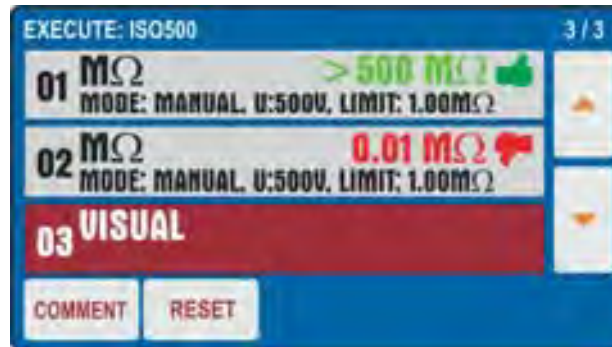

Fig. 78 : AUTO TEST Function - Partial result test 02
9. Press the **START/STOP** key again to end the "02" test. The instrument will save the first partial result of the Autotest and automatically prepares itself for the execution of the next "03" test (see Fig. 78)